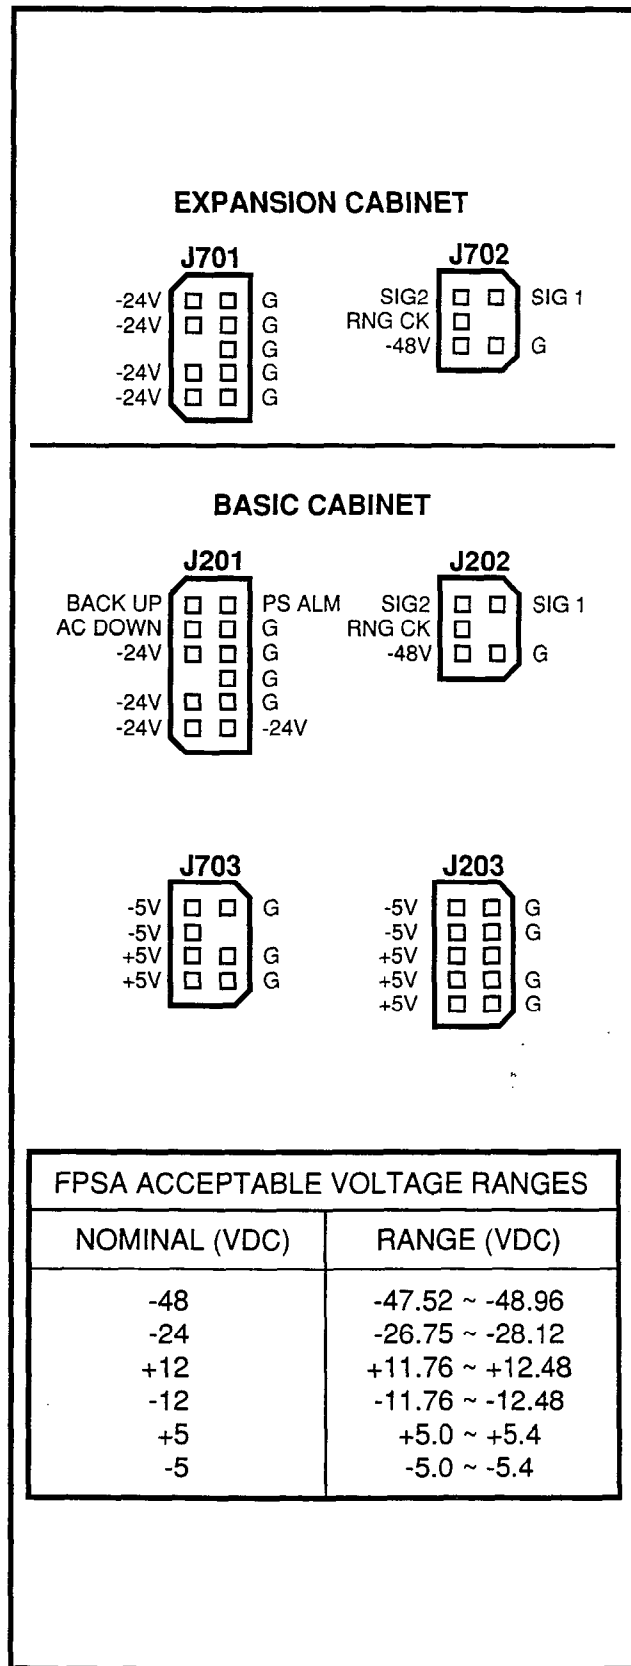

FIGURE 4-3—PERCEPTION_e VOLTAGE CHECKS
- 13) Using a multimeter (set to the appropriate ranges), check the pins on connectors **J201**, **J202**, **J203** and **J703** for the voltages shown in Figure 4-3. (The connectors are on the rear of the power supply chassis.) Measure between the voltage pin and a ground pin. (All ground leads are tied to a single point, so any can be used.) Figure 4-3 also shows the acceptable range for each output voltage. If a measured voltage falls outside of the acceptable range, replace the main power supply.
and **J702** on the secondary power supply for the voltages shown in Figure 4-3. (The connectors are on the rear of the power supply chassis.) Measure between the voltage pin and a ground pin. (All ground leads are tied to a single point, so any can be used.) Figure 4-3 also shows the acceptable range for each output voltage. If a measured voltage falls outside of the acceptable range, replace the secondary power supply.